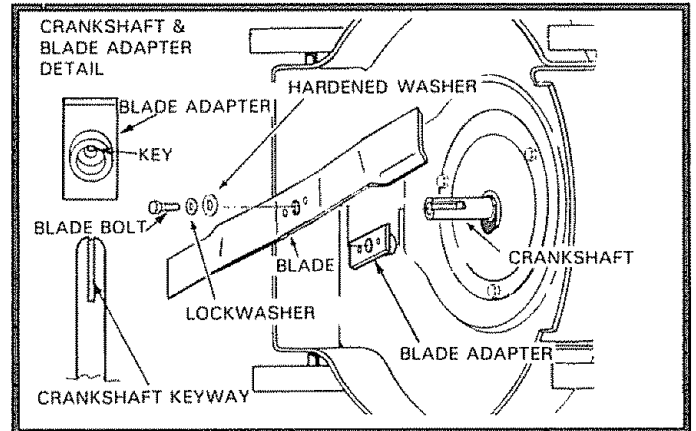

FIG. 6
- Remove blade and attaching hardware (bolt, lockwasher and hardened washer) (See Fig. 6).
NOTE: Be sure the word TOP (stamped on the blade) is toward the engine (See Fig. 6).
- Install the blade bolt with the lockwasher and hardened washer into blade adapter and crankshaft (See Fig. 6).